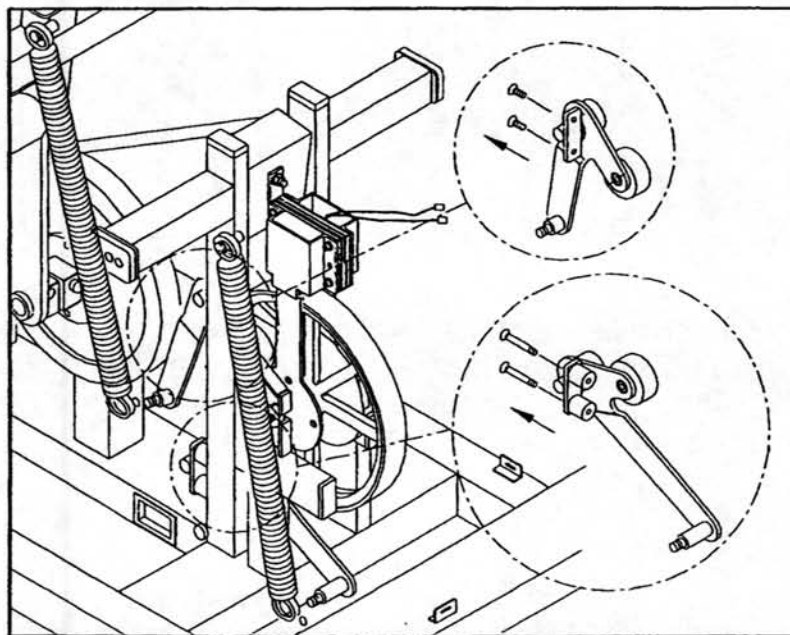

Fig.14-2
3. Remove all the screws from the IDLER WHEELS(see the enlarged figure of the fig.14-2) and take apart them from the FRAME (see fig.14-2)